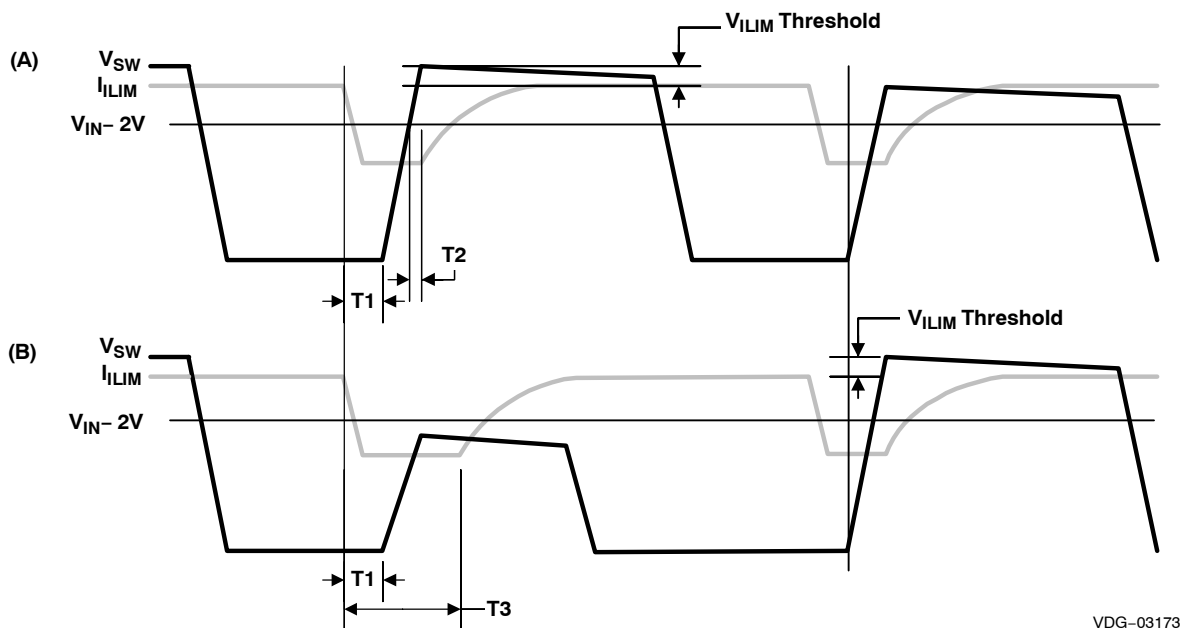

Figure 9. Voltage Feed-Forward and PWM Duty Cycle Waveforms
The TPS4007x uses a two-tier approach for short circuit protection. The first tier is a pulse-by-pulse protection scheme. Short circuit protection is implemented on the high-side MOSFET by sensing the voltage drop across the MOSFET when its gate is driven high. The MOSFET voltage is compared to the voltage dropped across a resistor (R_{ILIM}) connected from V_{DD} to the ILIM pin when driven by a constant current sink. If the voltage drop across the MOSFET exceeds the voltage drop across the ILIM resistor the switching pulse is immediately terminated. The MOSFET remains off until the next switching cycle is initiated. This is illustrated in Figure 9.
In addition, just prior to the high-side MOSFET turning on, the ILIM pin is pulled down to approximately half of V_{DD} . The ILIM pin is allowed to return to its nominal value after one of two events occur. If the SW node rises to within approximately 2 V of V_{DD} , the device allows ILIM to go back to its nominal value. This is illustrated in Figure 9(A). T_1 is the delay time from the internal PWM signal being asserted and the rise of SW. This includes a driver delay of 50 ns typical. T_2 is the reaction time of the sensing circuit that allows ILIM to start to return to its nominal value, typically 20ns. The second event that can cause ILIM to return to its nominal value is for an internal timeout to expire. This is illustrated in Figure 9(B) as T_3 . Here SW never rises to $V_{DD}-2 \text{ V}$, for whatever reason, and the internal timer times out, releasing the ILIM pin.